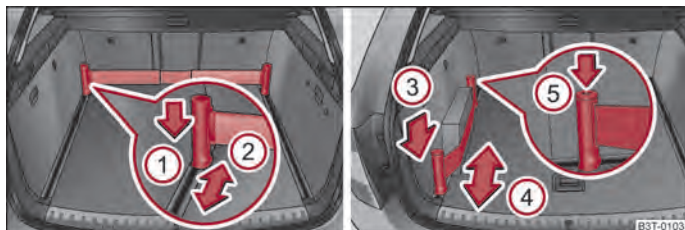

Fig. 80 Telescopic pole and tensioning strap
- Press the top part of the holder in direction of arrow ① ⇒ fig. 80 and push it at the same time in the desired position, arrow ②.
- Press the holder in direction of arrow ③ ⇒ fig. 80 and push it at the same time in the desired position, arrow ④.
- Press the button ⑤ on the top side of the holder and tighten the strap.
- The tensioning strap can also be fully reeled up by pressing the button ⑤ ⇒ fig. 80.